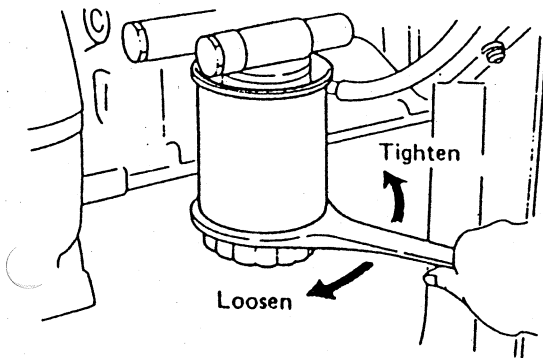

Fig. 34 Engine oil filter
- 1 To remove the filter, loosen the filter turning the filter shell with a band wrench or special wrench as shown in Fig. 34